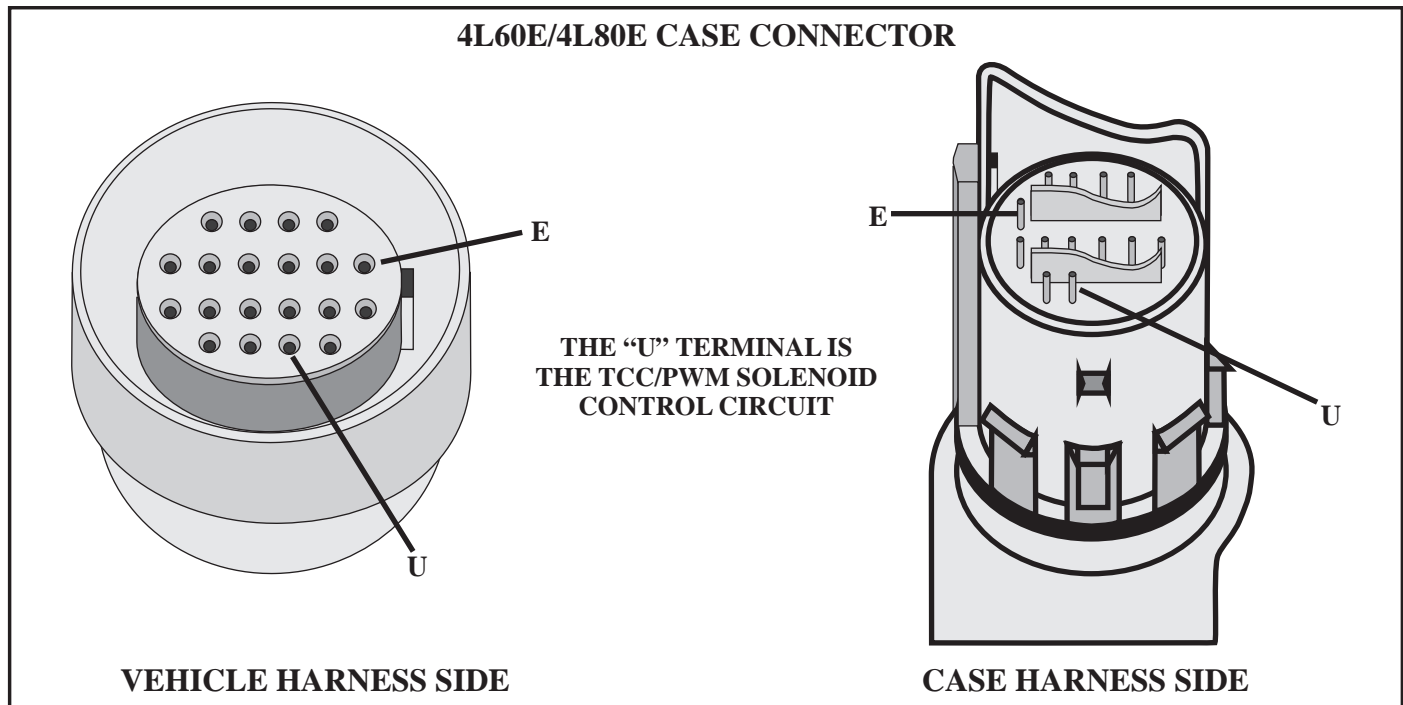

Figure 114
- Damaged terminal ends, Refer to Figure 114 for cavity drag test.